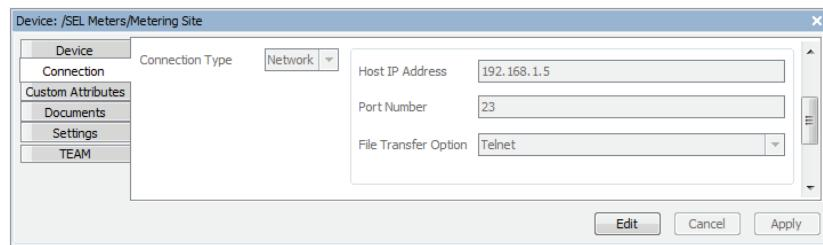

Figure 180 SEL-735 Connection Parameters
- Step 3. Select the **Connection** tab and set the **Connection Type** to **Network**. Configure the **Host IP Address** to match the address of your meter. For this example, use **192.168.1.5**. Leave the **File Transfer Option** as **Telnet** and the **Port Number** as **23**. *Figure 180* shows the SEL-735 connection parameters.